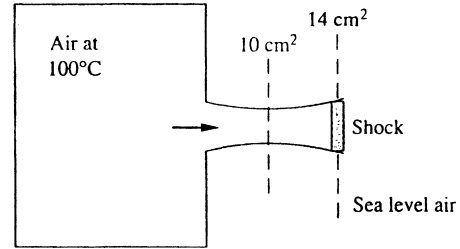

Fig. P9.57
**9.57** Air flows from a tank through a nozzle into the standard atmosphere, as in Fig. P9.57. A normal shock stands in the exit of the nozzle, as shown. Estimate (a) the tank pressure; and (b) the mass flow.